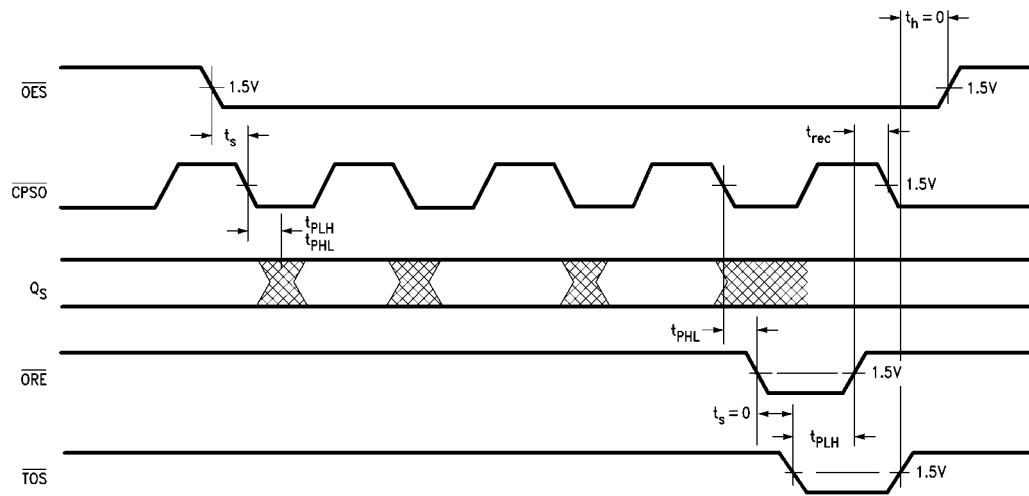

FIGURE 14. Serial Output, Slave Operation
| t PLH              | Propagation Delay, Negative-Going$\overline{\text{CPSO}}$ to Q S Output                 | 4.0                                                                         | 25.0 | 3.0                                                                                | 27.0 | ns    | Figure 13Figure 14 |
| t PHL              | Propagation Delay,Negative-Going TOP to $\overline{\text{ORE}}$                                    | 7.0                                                                         | 25.0 | 6.0                                                                                | 28.0 | ns    | Figure 13Figure 14 |
| t S (L) | Setup Time, LOW Negative-Going$\overline{\text{ORE}}$ to Negative-Going $\overline{\text{TOS}}$ | 0.0                                               |     | 0.0                                                      |     | ns    | Figure 13Figure 14                           |
| t W (L) | $\overline{\text{TTS}}$ Pulse Width, LOWSerial or Parallel Mode                                 | 7.0                                               |     | 9.0                                                      |     | ns    | Figure 11Figure 12Figure 13Figure 14 |
| t W (H) | $\overline{\text{CPSO}}$ Pulse Width                                                                | 14.0                                              |     | 16.0                                                     |     | ns    | Figure 13Figure 14                           |